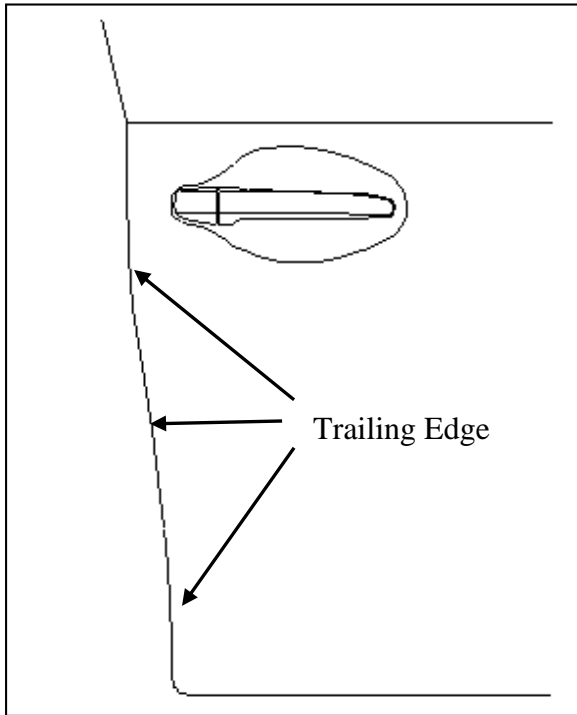

Fig. 1-8
- (j) Fully open front passenger door and clean and dry trailing edge of door as needed with distilled water and lint free towel. (Fig. 1-8)